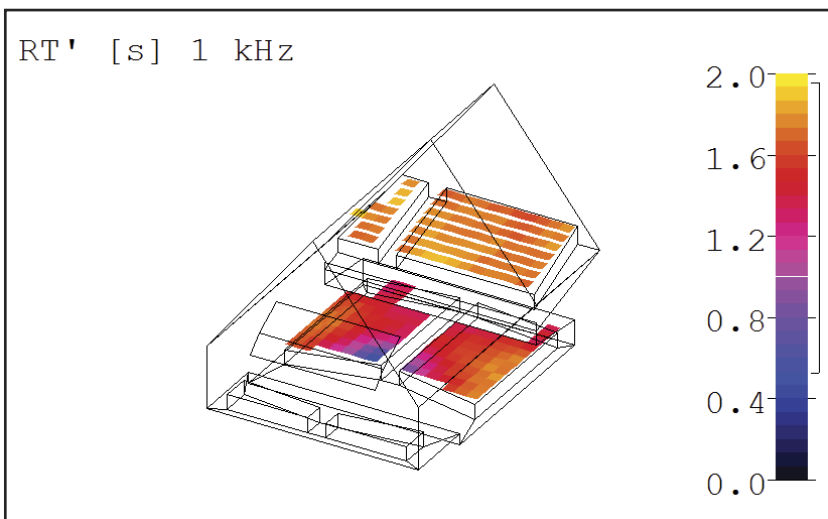

Figure 10: The very-low-RT area shown by the blue patch near the center results from the signal source being too near the area whose RT is being determined.
**Figure 10** illustrates the effect of measuring RT too close to the source, which in this case was located a bit toward house-right of the horizontal center of the room, 10' above the floor. The region of very low RT can be clearly seen.